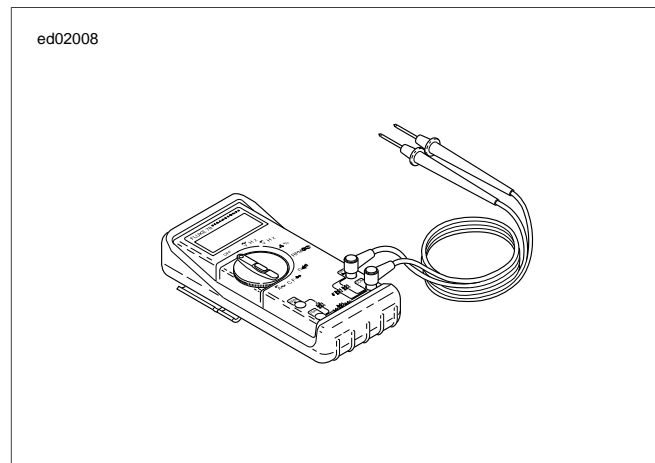

Figure 1-15. Digital Multimeter (Fluke 78)
- See Figure 1-15. Connect DIGITAL MULTIMETER (FLUKE 78) (Part No. HD-39978) to wiring harness between suspect connections. When diagnosing ECM connections, use BREAKOUT BOX (Part No. HD-50390-1), ECM